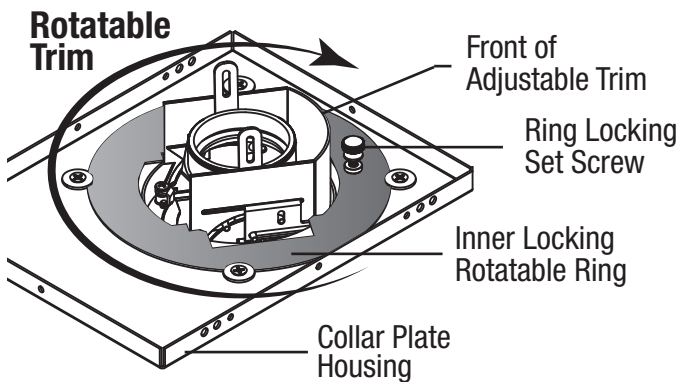

FIGURE 6
Step 2. Reach into the trim collar opening and tighten the ring locking set screw from inside the collar **See Fig 6.**